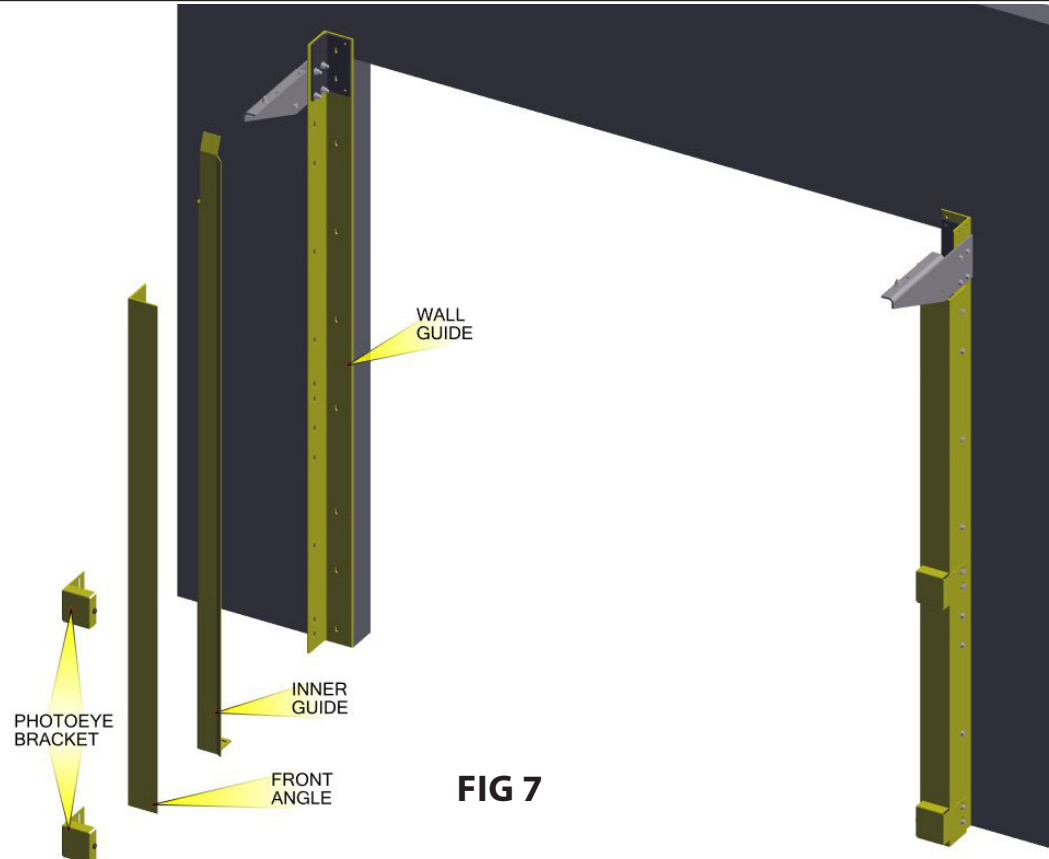

FIG 7
- Reassemble the guide assemblies (except the top front guide) in their mounted position on the wall using the hardware you took off earlier in this step. See **FIG 7**.